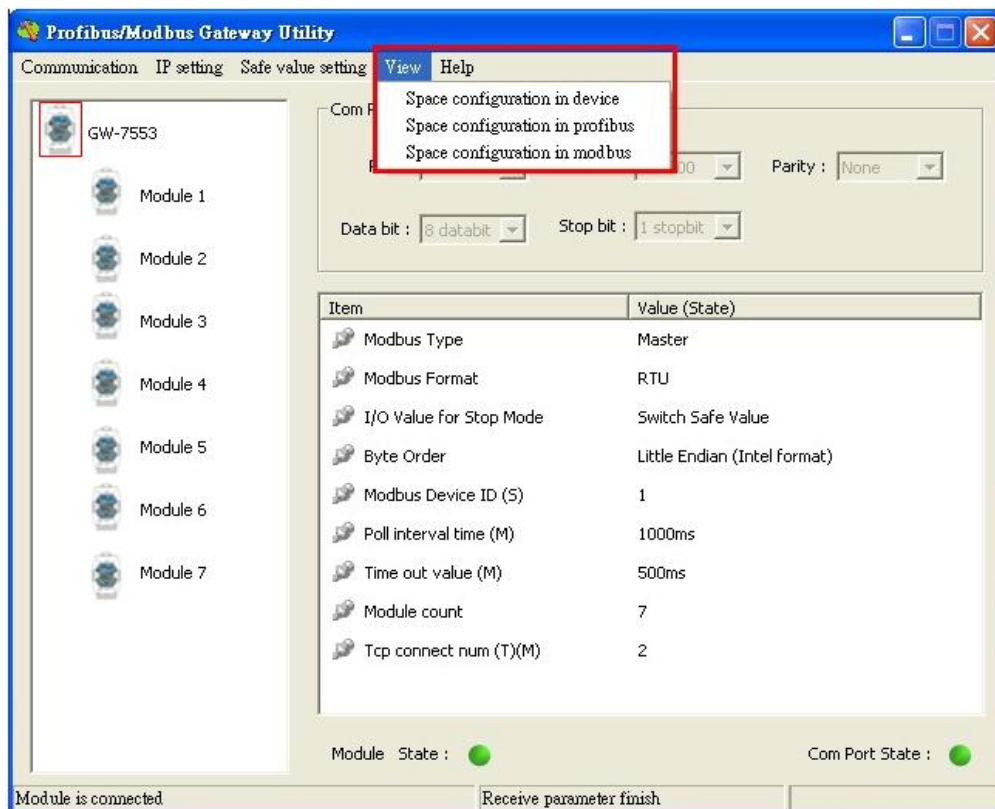

Figure 74 The menu of space configuration
There are 3 kinds of memory address configuration. They are (1)Space configuration in device 、 (2) Space configuration in PROFIBUS 、 (3)Space configuration in Modbus, as shown in *Figure 74*.